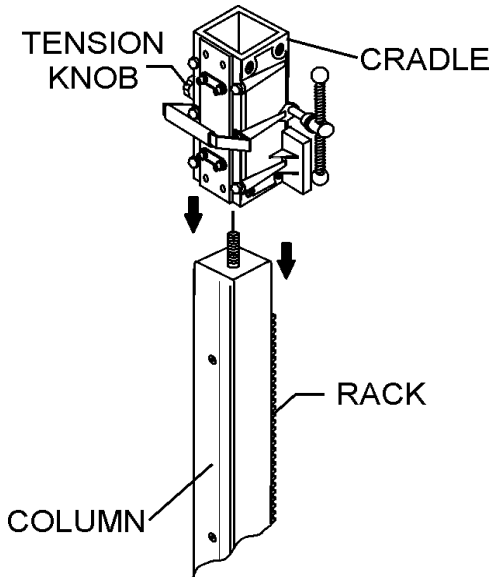

Figure 7. Cradle Assembly
5. Locate the cradle assembly (Figure 7) and place it directly over the column. Make sure the cradle handle is located on the right side of the column if you are standing at the back (wheels) of the drilling rig. It may be necessary to loosen the cradle tension knob slightly to allow the cradle to slip onto the column rack.